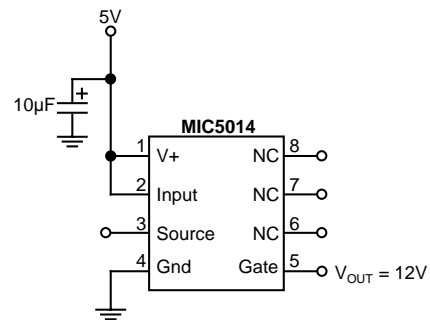

Figure 11. DC - DC Converter
**Simple DC-DC Converter** (Figure 11) The simplest application for the MIC5014 is as a basic one-chip DC-DC converter. As the output (Gate) pin has a relatively high impedance, the output voltage shown will vary significantly with applied load.